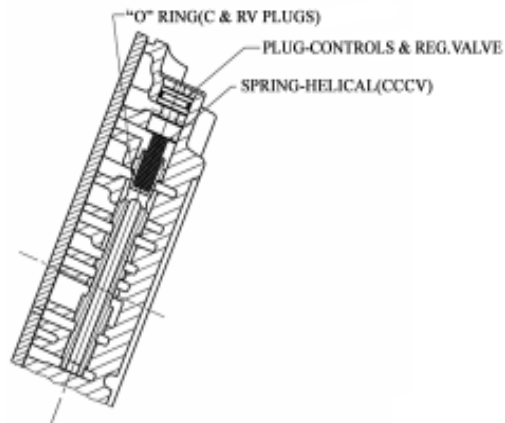

Figure 8.38 Torque converter clutch control valve
- m. Install the torque conversion clutch control valve, spring and O-ring. Refer to Figure 8.38